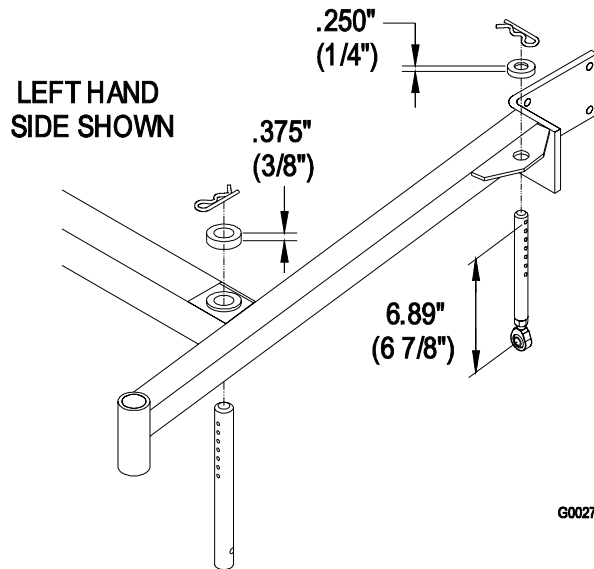

FIGURE 9
b) Install hairpin clips in the holes for the desired cutting height (See Figure 9).
1. The front and rear hairpins are in the same holes with the proper spacers under the hair pins (See Figure 9).
3. The length of the rear deck support link assemblies should average 6.89" (approximately 6 7/8") (17.5 cm) from the center of the ball joint to the center of the furthest hole (See Figure 9).